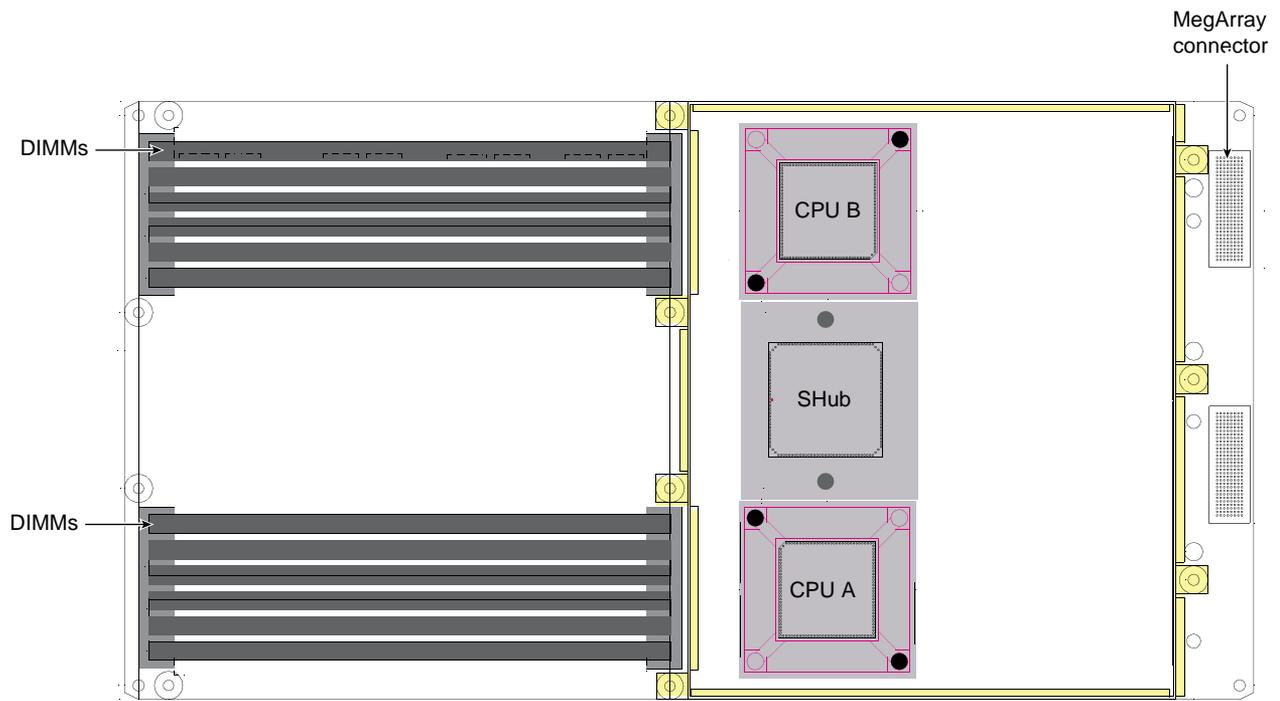

Figure 3-3 IP57 Node Board
- One or two Intel Itanium 2 processors (labeled CPU in Figure 3-3). Each processor has integrated L1, L2, and L3 caches.